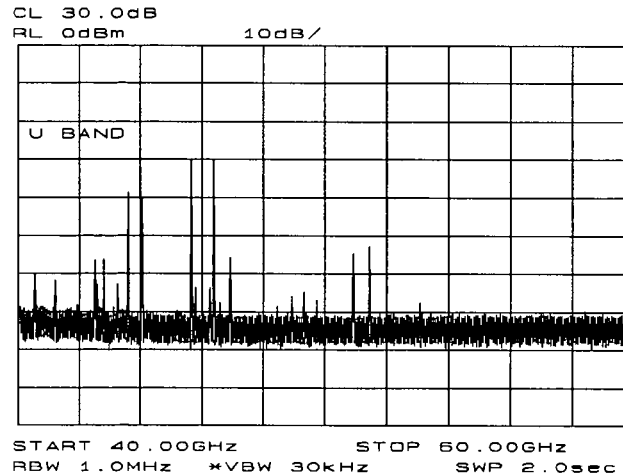

Figure 3-31. Select the band of interest.
1. Specify unpreselected external mixing by pressing **CONFIG**, then **EXT MXR PRE UNPR** until **UNPR** is selected. To select a frequency above 18 GHz, press **AUX CRTL**, **EXTERNAL MIXER** to set the analyzer to external mixer mode, and then enter the desired frequency directly using the center-frequency function. Note in Table 3-1 that some frequencies overlap and fall into two bands. To be sure that the desired band is selected, refer to Table 3-1 and select the desired frequency band, then use the full band function to enter this band. In the external mixer menu, press **FULL BAND**, then press the step up **▲** key until the letter preceding **BAND** in the active function area corresponds to the desired frequency band. In this example, we'll take a look at U-band, which ranges from 40 GHz to 60 GHz, as depicted in Figure 3-31. The **LDCK HARMONIC** function "locks" the spectrum analyzer in that band, ensuring that the spectrum analyzer sweeps only the chosen band. The **LOCK ON OFF** softkey is automatically set to ON when **FULL BAND** is pressed.